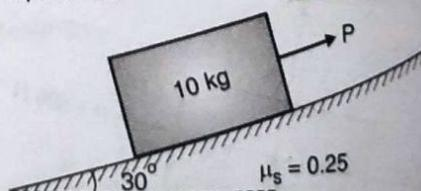

Fig. Q. 7
- Q.7 A block of 10 kg mass rests on an inclined plane as shown in Fig. Q. 7. If the coefficient of static friction between the block and plane is $\mu_s = 0.25$, determine the maximum force 'P' to maintain equilibrium.